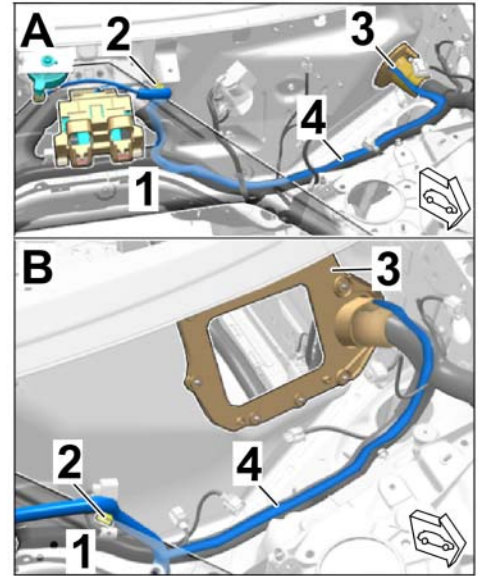

Figure 18
2.3.2 Lay the wire harness for the engine noise to the grommet on the bulkhead (in the A-pillar plenum panel area – left (⇒ Figure 18):